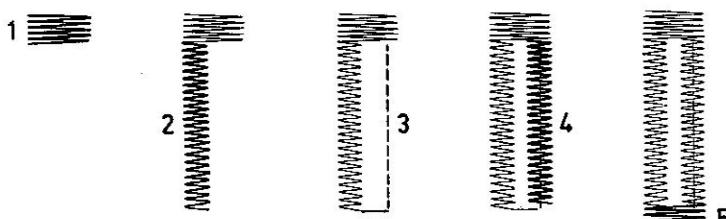

Fig. 46
- c) Make the upper bar tack with 3 or 4 stitches (Fig. 46 - 1) and stop with the needle off the fabric.
- d) Turn buttonhole knob until mark « 2 » is brought into line with mark « D » and make the left row of stitches (Fig. 46 - 2) until the upper bar tack reaches the limit marked by the guide. Stop with the needle off the fabric.
- e) Turn buttonhole knob until mark « 3 » is brought into line with mark « D ». The machine will sew straight stitches in the reverse direction (Fig. 46 - 3).
- f) When the needle arrives at the upper bar tack, turn buttonhole knob until mark « 4 » is brought into line with mark « D » and make the right row of stitches (Fig. 46 - 4) until the upper bar tack reaches the limit marked by the guide. Stop with the needle off the fabric.
- g) Turn buttonhole knob until mark « 5 » is brought into line with mark « D », make the lower bar tack with 3 or 4 stitches: the buttonhole is then completed (Fig. 46 - 5).